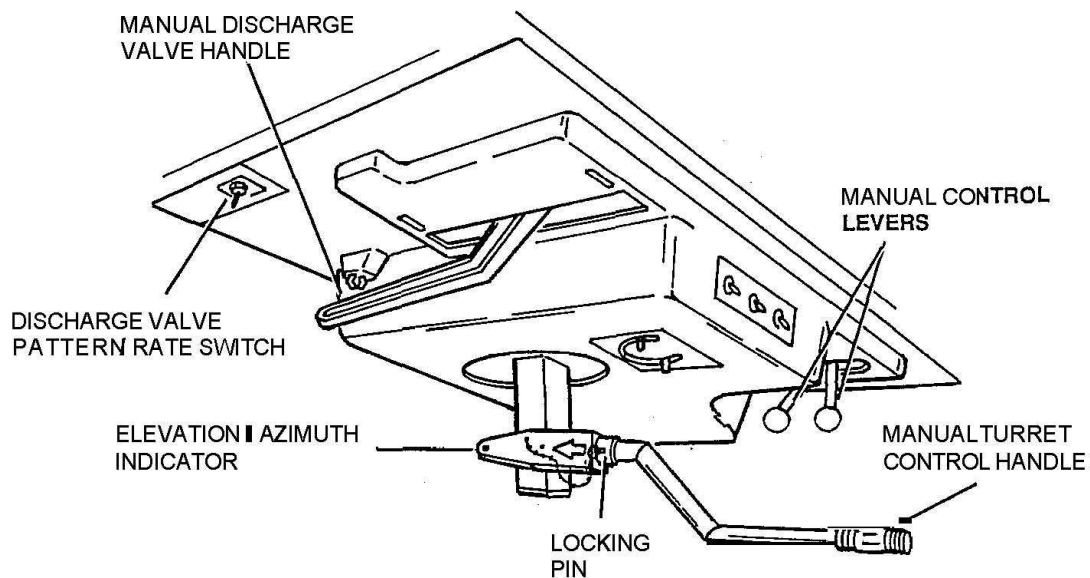

Figure 1-6 Roof Turret Manual Mode Controls.
c. Manual Mode. in this mode, the roof turret is aimed and the agent discharge is controlled manually without power assist. This mode is normally used only when air and / or electrical power to the turret is lost. Refer to Figure 1-6.